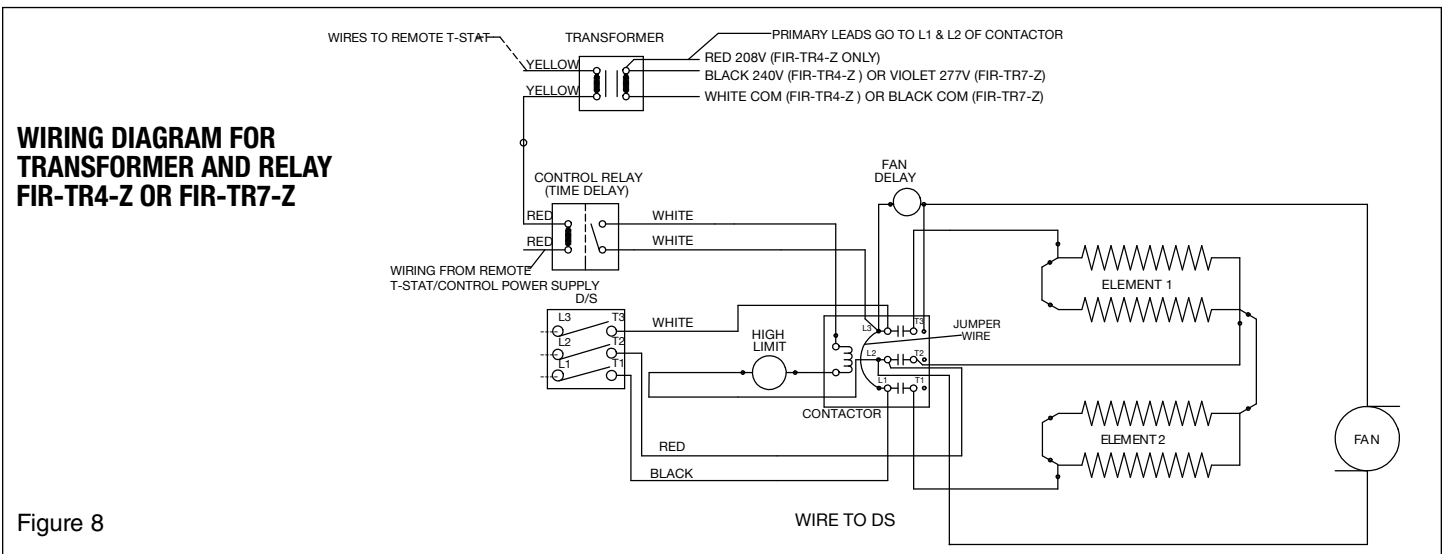

Figure 8
2. To wire the transformer and relay, refer to the wiring diagram, Figure 8, and proceed as follows: